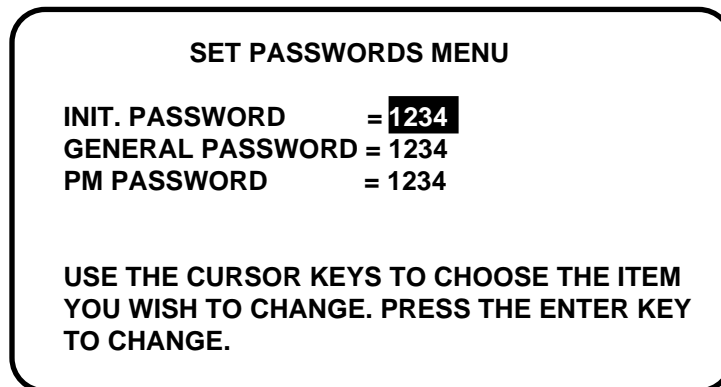

Figure 4-32. Set passwords menu
3. The display shows the Set Passwords menu, Figure 4-32.